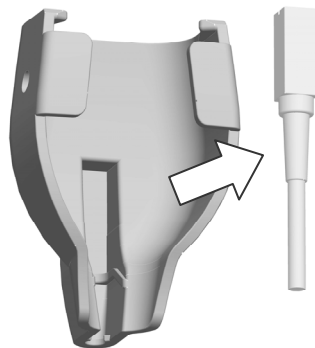

Fig. 12 How to release the Magnetic sensor
- 2) Release the magnetic sensor from the magnetic sensor attachment as shown in Fig. 12.